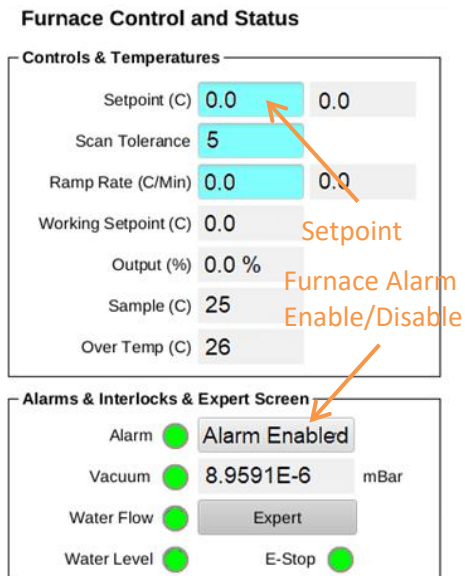

Figure 1. Furnace dashboard.
- c. Set temperature setpoint to 0°C (Figure 1).